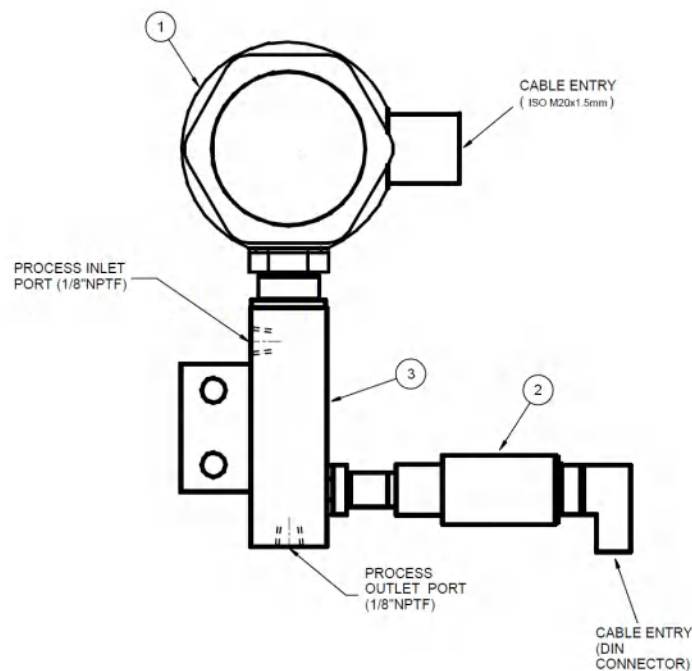

Figure 7 Promet I.S. Sensor Assembly
- c. Sample gas connections are made via the gas inlet and gas outlet ports as shown in *Figure 7*. Both the gas inlet and outlet port are 1/8" NPT female ports. Michell recommends using Swagelok® 6mm to 1/8" NPT (ordering code SS-6M0-1-2) or 1/4" to 1/8" NPT (ordering code SS-400-1-2) male connectors to connect these two ports to the 6mm or 1/4" sampling system tubing. Follow standard Swagelok® installation instructions to make the connections.